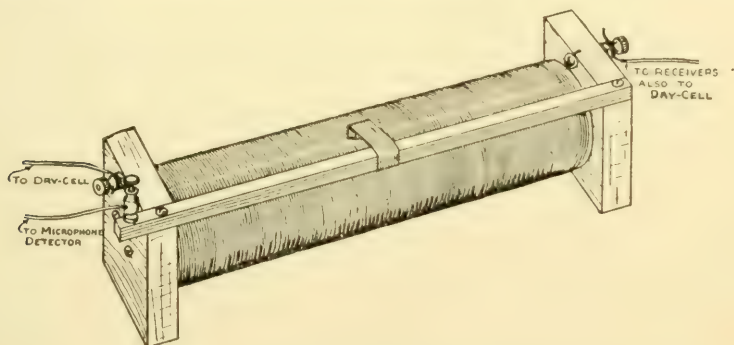

FIG. 324. — A Home-made Potentiometer.
**A Potentiometer**, but with a microphone detector you will require one. Its purpose is to regulate with great precision the battery current in the *receiving circuit*. It is made like the tuner, except that it has only one slider instead of two and is much smaller (Fig. 324), and must